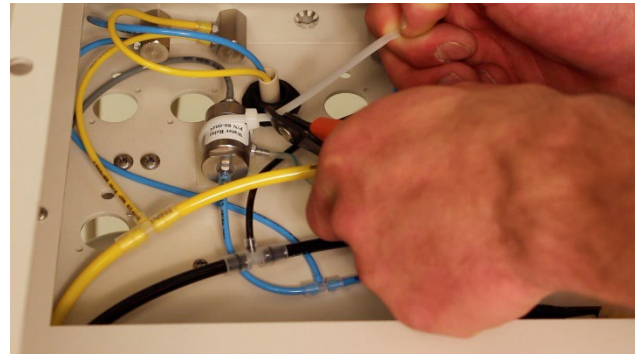

Fig. 6
- 7 Use provided zip tie to hold relay in place cut off excess tie. (Fig. 6)